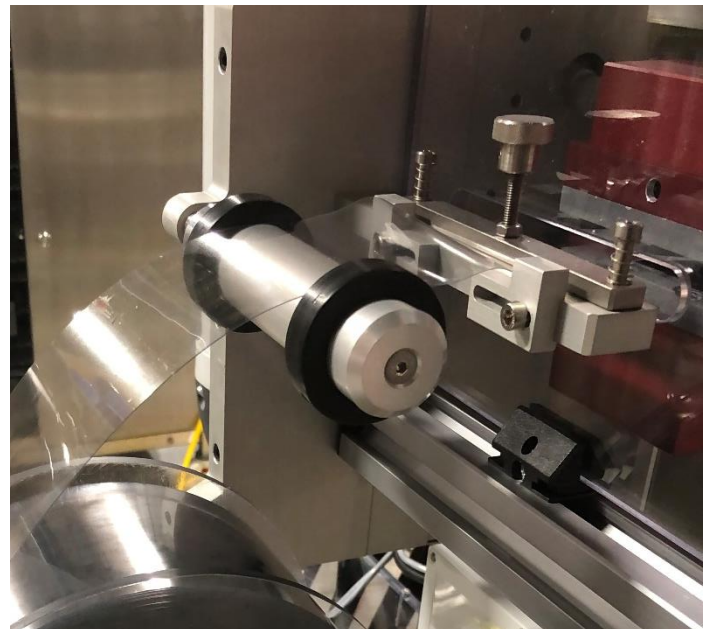

Figure 4
- Forming station in-feed guide could be adjusted to accept different film widths by loosening the two-set screw on film collars and adjusting to the desired width then fastening the screws back. (*Figure 4*)